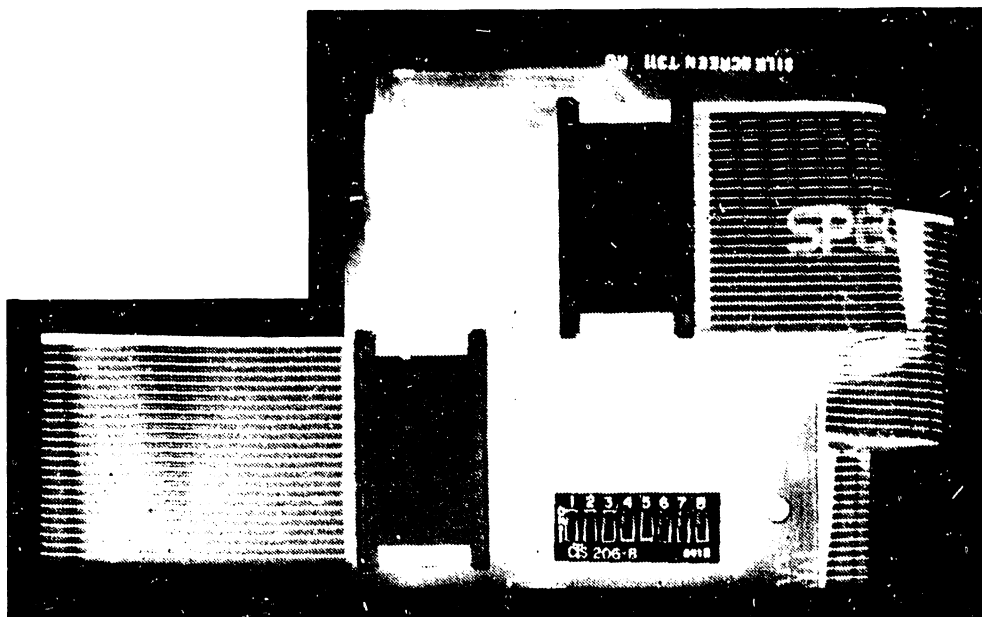

FIGURE 5-1 DIAGNOSTIC DISPLAY BOARD WLI # 190-0739
The phase alignment for the print-wheel encoder must be performed when replacement or maintenance has been performed on the print head and when the alignment has been found out-of-tolerance during an adjustment check. If the printer has been modified for use of Diagnostic Display Board WLI # 190-0739, the print wheel can be moved CW or CCW by use of DIP switch settings called out in the check and adjustment procedures and shown in Figure 5-1. If the printer is not modified, use the manual procedures outlined in this Chapter to cause the print wheel to rotate CW and CCW.
4. Set Diagnostic Display Board DIP switch # 1 to ON and all the remaining seven DIP switches to OFF (see Figure 5-1).